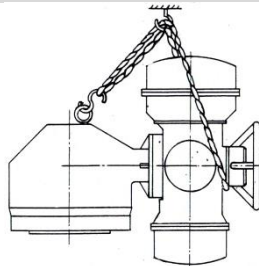

Figure 4.0
- Refer figure 4.0 for general arrangement of the bevel gearbox with actuator.
- One no. suitable eyebolt is provided on one side of the gearbox. Put the rope around the actuator and the eyebolt by using 'S' hook as shown in the figure 4.0. Lift gently so that the combination does not tilt in opposite direction.